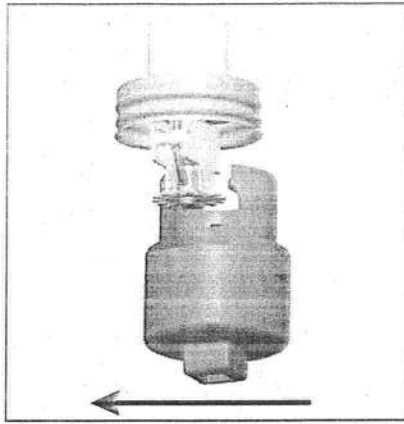
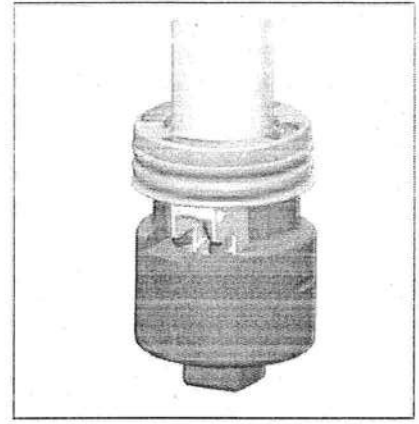

Fig. 1 - G3 R/C Wrench
Fig. 3 - G3 R/C Wrench
- The Model G3 R/C wrench (Fig. 1) is designed to locate on the wrenching pads of the recessed sprinkler while centering in the cup. A standard ½" drive ratchet may be used to drive this wrench. Figures 1 and 2 show sequentially the insertion of the wrench. First the wrench, with its jaws above the sprinkler deflector, is moved laterally until centered with the cup. Then raise the wrench inside of the cup until its jaws engage the sprinkler's square wrenching pads (Fig. 3). To remove the wrench, follow this procedure in reverse order. Care should be taken to avoid striking the deflector, with the wrench.